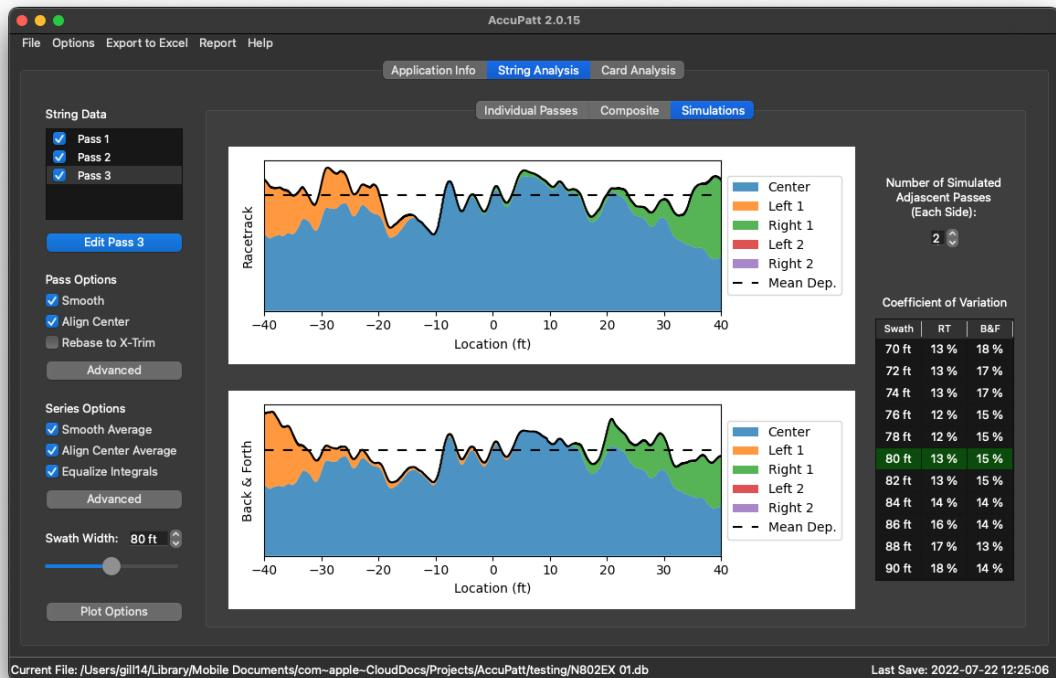

Figure 7: String Analysis - Simulations
The **Simulations** sub-tab contains two plots (Figure 7). Both plots simulate additively overlapping the measured pattern at intervals of the adjusted swath width. The bold black line represents the resultant summed pattern, and is interpreted here as projected in-field uniformity. The dashed horizontal line represents the mean value, about which standard deviations are computed for coefficient of variation (CV) calculations. In other words, the further a data point on the bold black line is (vertically) from the dashed line, the more it contributes to the CV.